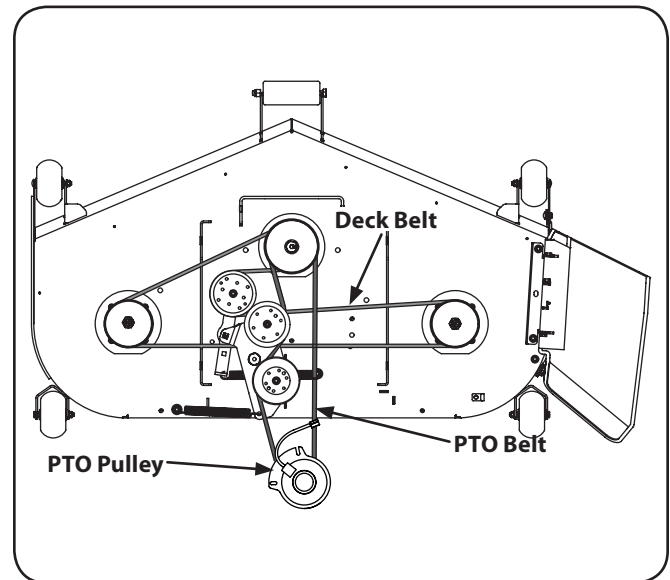

Figure 7-8
6. Route the PTO belt as shown in Fig. 7-8. After routing the belt around the PTO pulley, use a ½" drive in the idler pulley bracket and turn towards the back of the tractor to finish routing the belt around the idler pulley.
- Install the new deck belt around the spindle pulleys as shown in Fig. 7-8 and reinstall the belt covers.